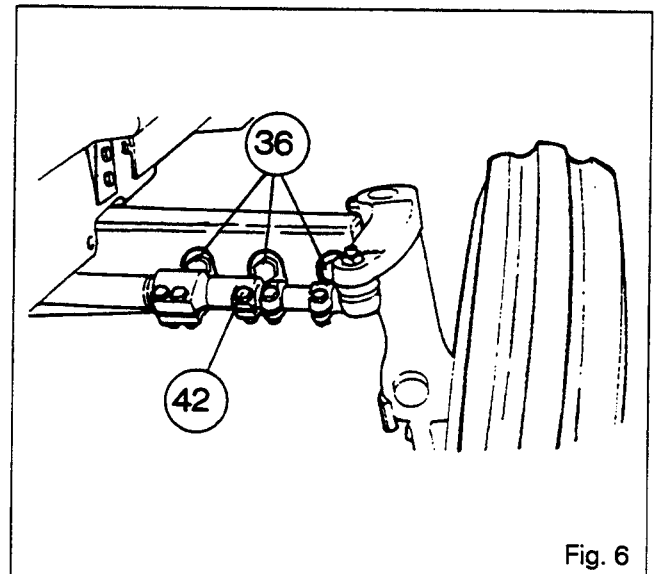

Fig. 6
114. Remove the screws (36) and (42) and the nuts (10) and (40) (Fig. 6).